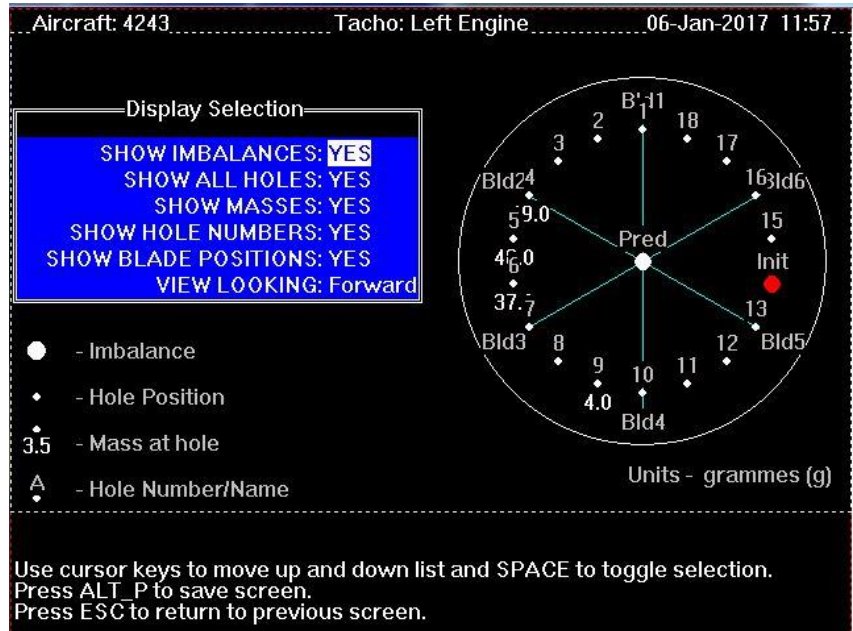

Figure 2-11 Balance Data Graphic Display
(3) Figure 2-11 provides an example of a typical Balance Graphical Display